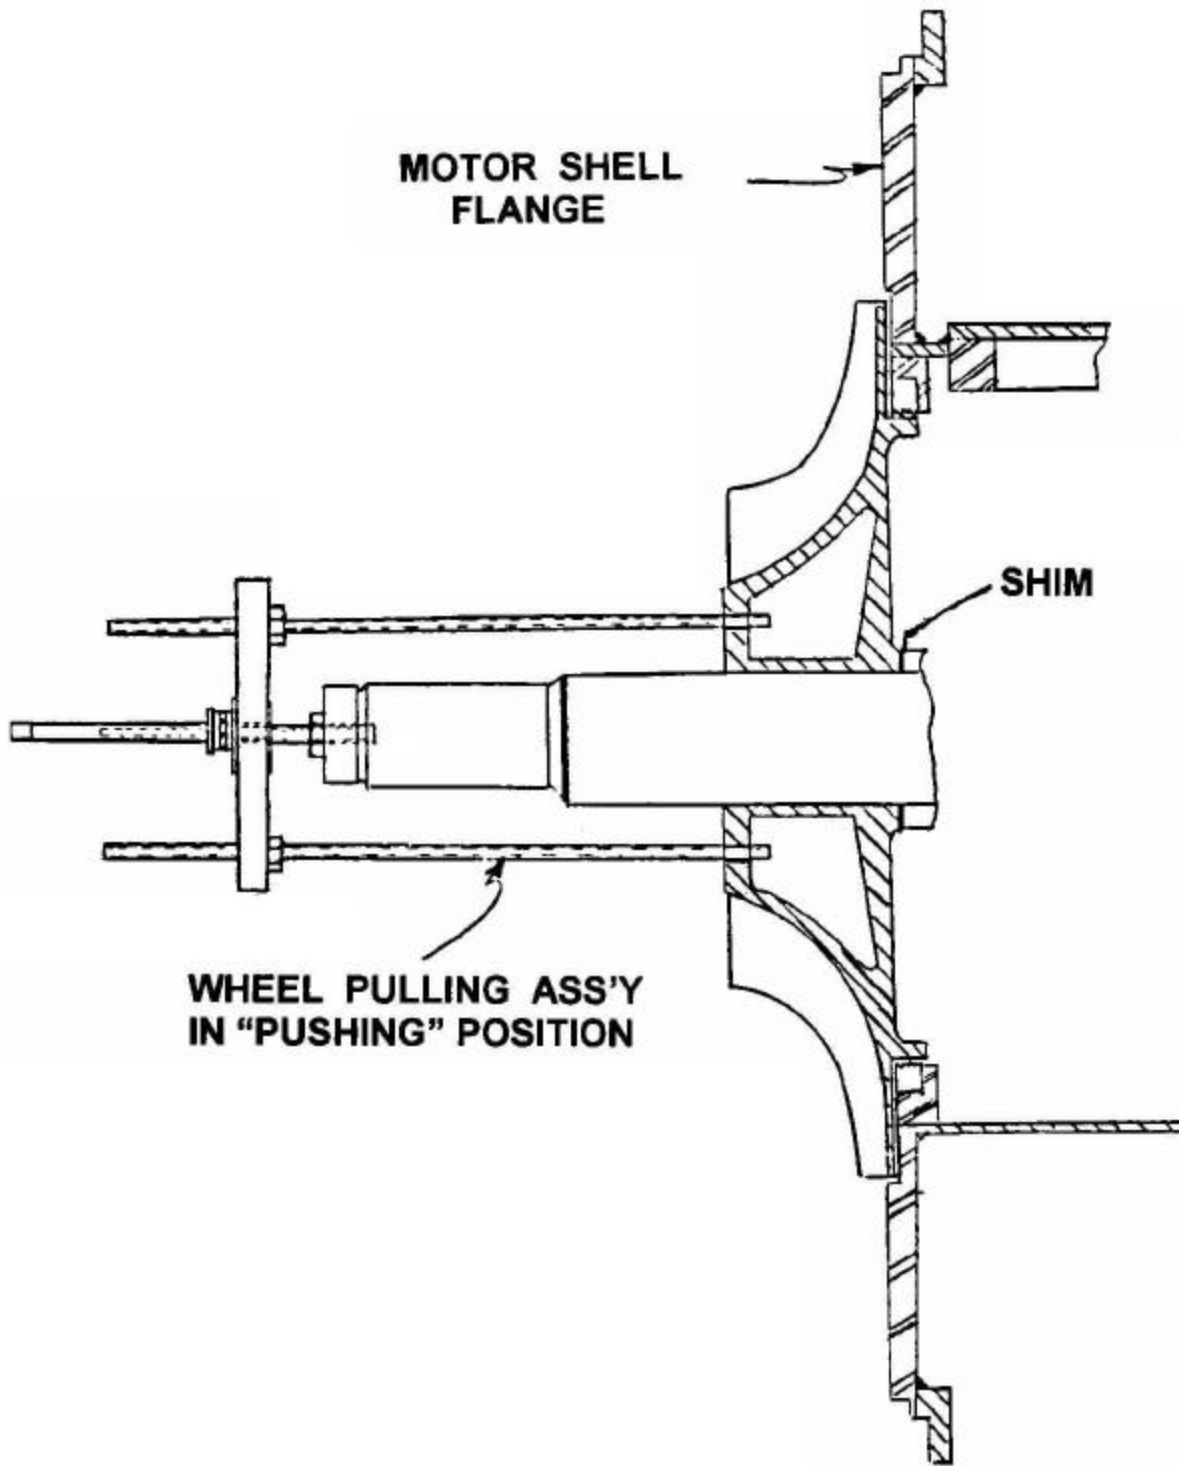

FIGURE 3
- q) The torch should be applied to the impeller hub for a few minutes during the cool down period to permit the back of the impeller to cool first and seize the shaft. Cooling will then be from the back of the impeller to the front of the impeller preventing the impeller from "creeping" away from the shim. Keep the wheel puller in the pushing position (figure 3) until the impeller has cooled sufficiently.